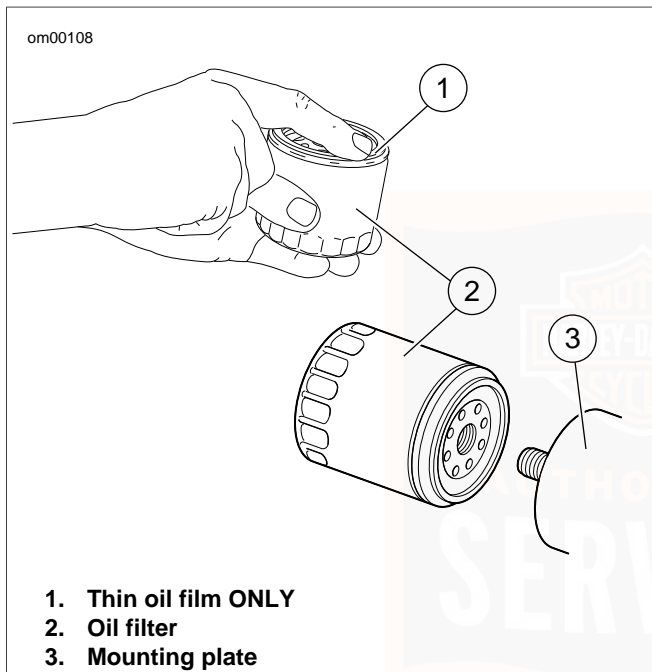

Figure 29. Applying Thin Oil Film
See Figure 29. The oil filter is located on an oil filter mount in front of the engine.
4. See Figure 29. Apply a thin film of oil to the gasket contact surface on the mounting plate, gasket and **new** oil filter.